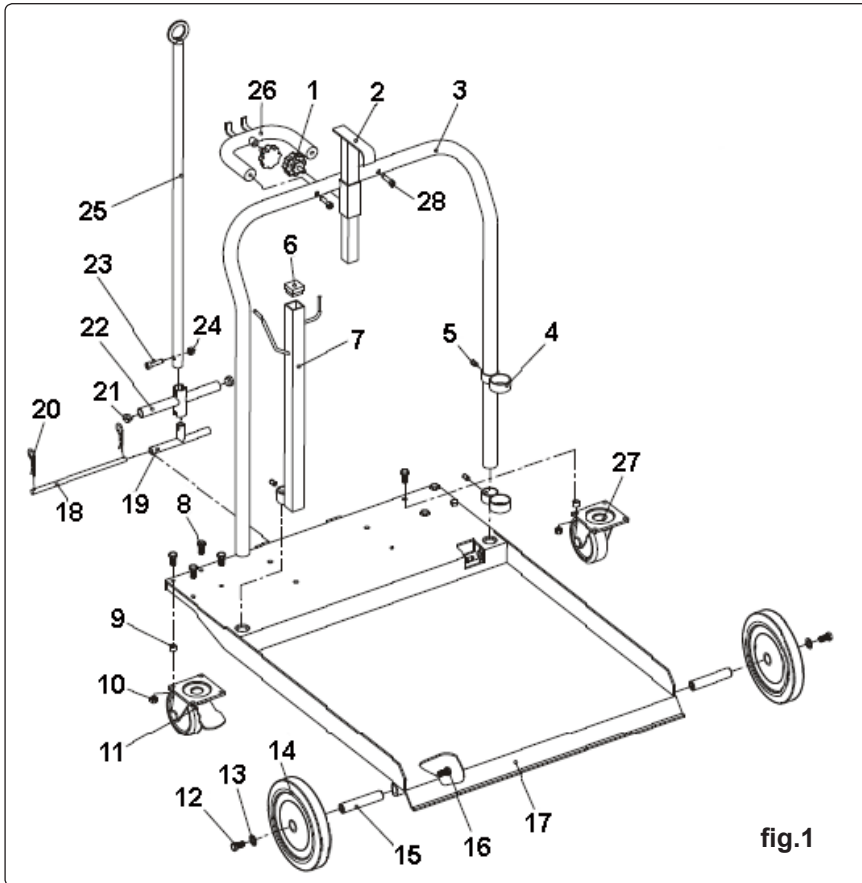

fig.1A
- 3.1.10 Place the AK4567D retractable hose reel (fig.1A) onto the back of the base plate and secure using four bolts, washers and nuts (not shown in fig.1).